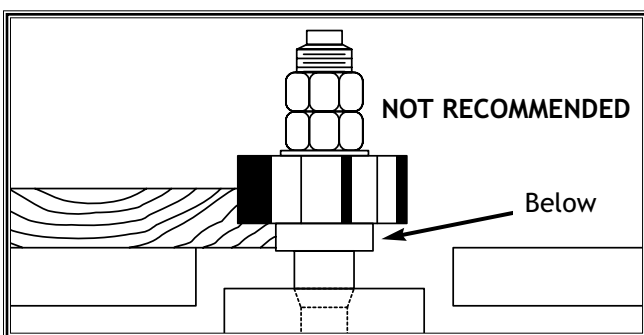

Figure 49. Rub collar mounted below cutter.
3. **BELOW THE CUTTER** as shown in **Figure 49**. This setup allows the cut to be viewed by the operator; however, it is also the most dangerous. Any slight lifting of the workpiece will cause the cutter to make too deep of a cut. There is also an increased chance of kickback.